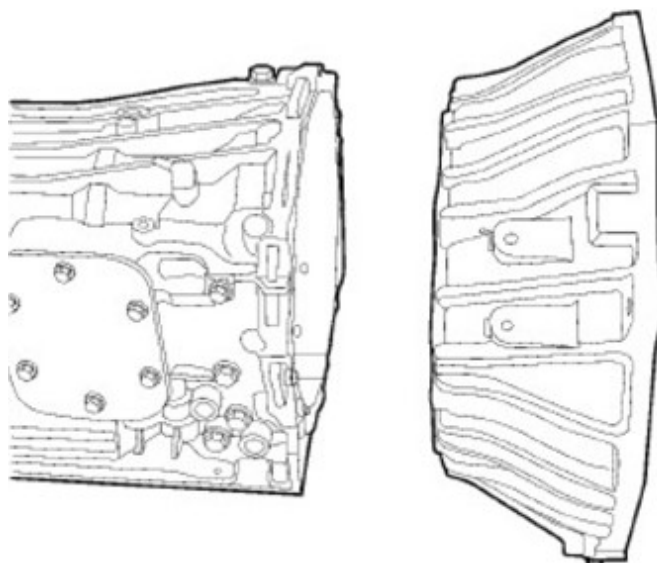

Fig. 4
- Remove the bolts securing the torque converter housing to the transmission case and remove the housing Fig. 4.